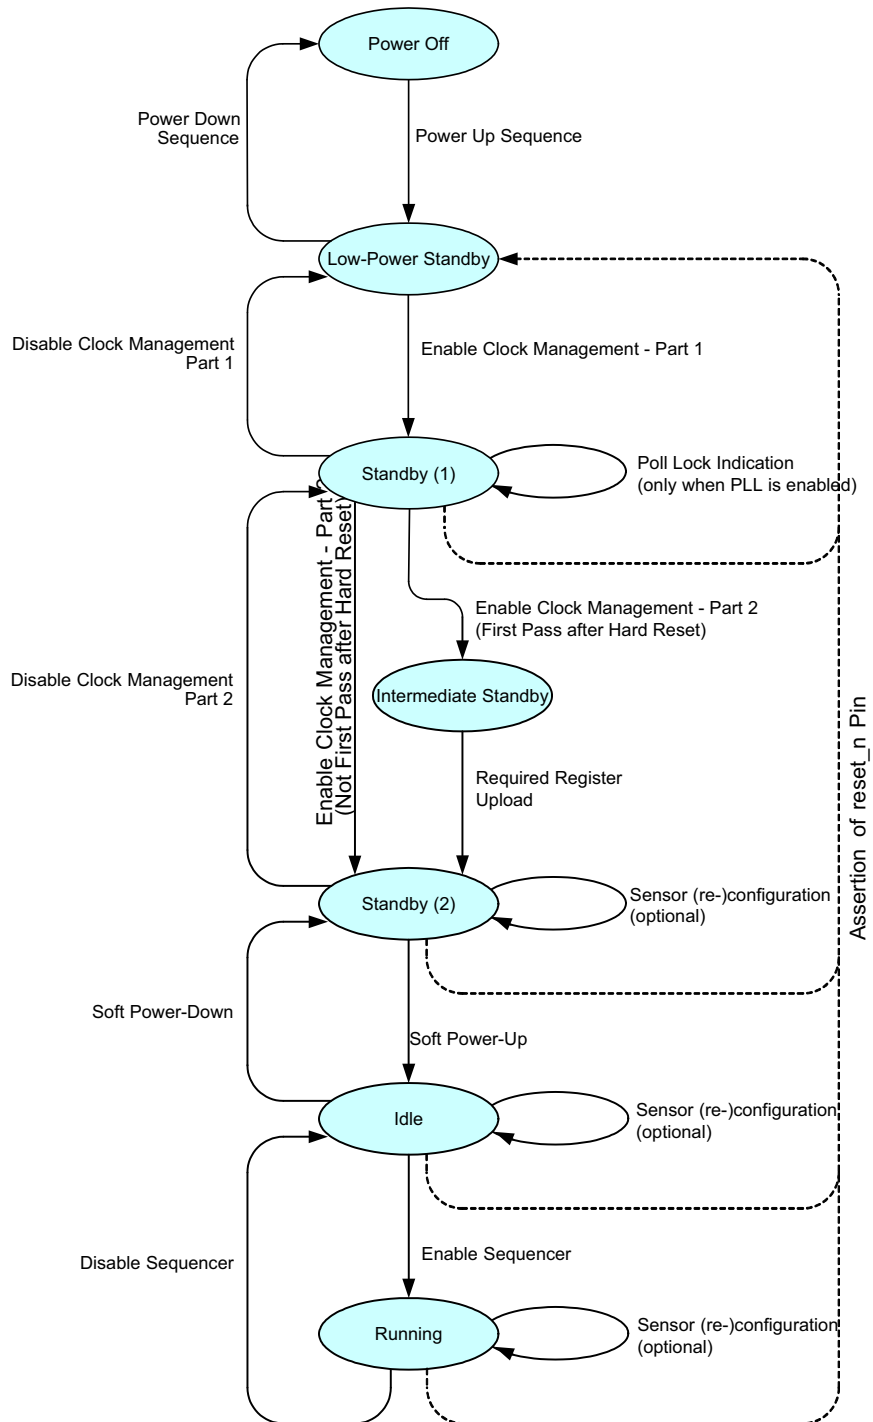

Figure 16. Sensor Operation Flowchart
Figure 16 shows the sensor operation flowchart. The sensor has six different 'states'. Every state is indicated with the oval circle. These states are Power off, Low power standby, Standby (1), Standby (2), Idle, Running.
Check the PLL\_lock flag 24[0] by reading the SPI register. When the flag is set, the ‘Enable Clock Management– Part 2’ action can be continued. When PLL is not used, this step can be bypassed as shown in Figure 16 on page 14.